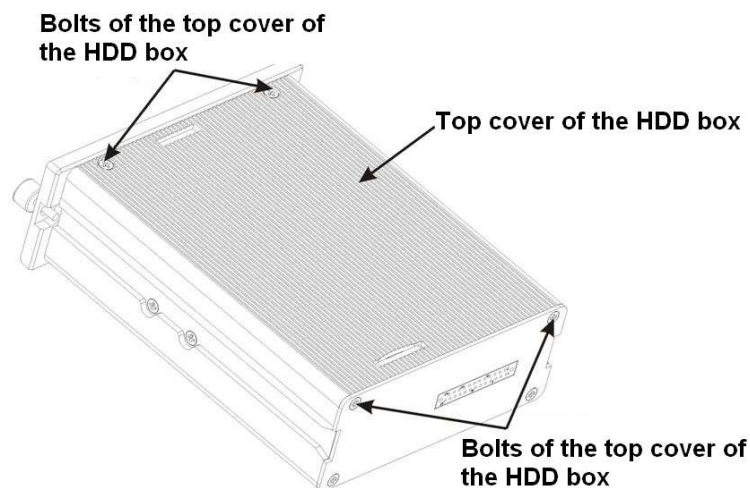

Figure 3-1
1) Remove HDD box cover, the HDD box and the parts are shown as below. See Figure 3-1. Please loosen the bolts of HDD box cover and then remove the top cover of the HDD box.